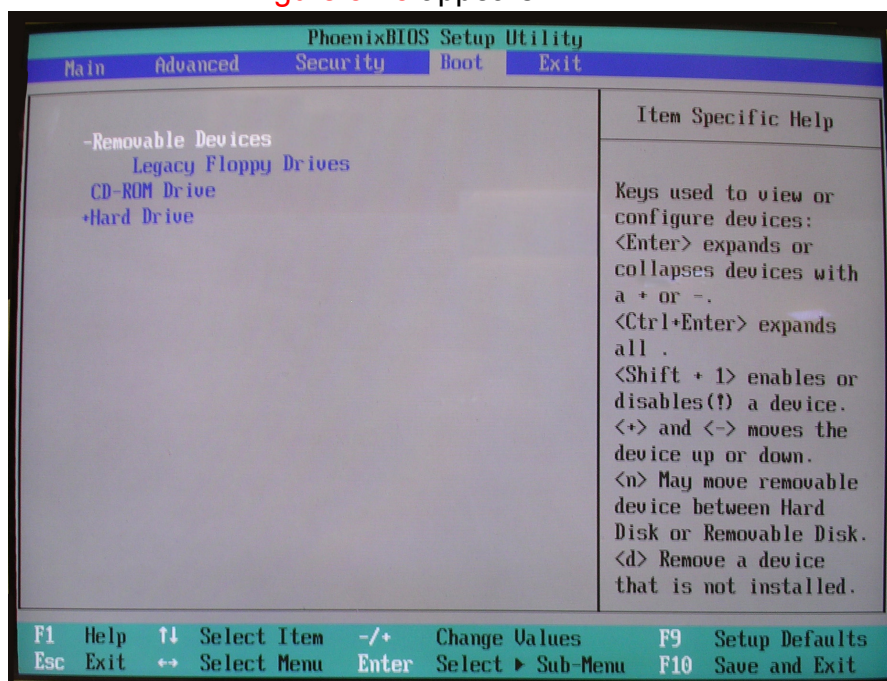

Figure 5-15. BIOS Boot screen
4. Use the keyboard's arrow keys $\uparrow\downarrow$ to cursor left-to-right to the **BOOT** menu, and press **Enter**. The screen seen in **Figure 5-15** appears.